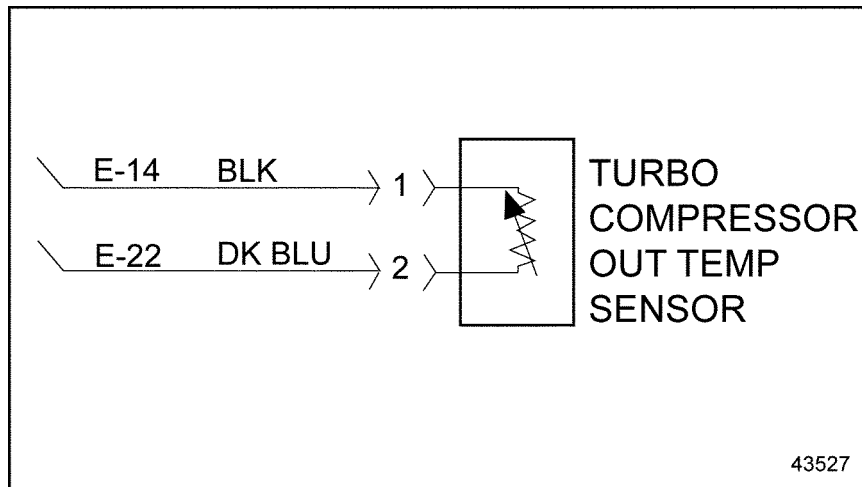

Figure 33-4 Turbo Compressor Outlet Temperature Sensor Circuit
1. Unplug the Engine Harness. Measure resistance between cavity E-22 and E-14. See Figure 33-4.